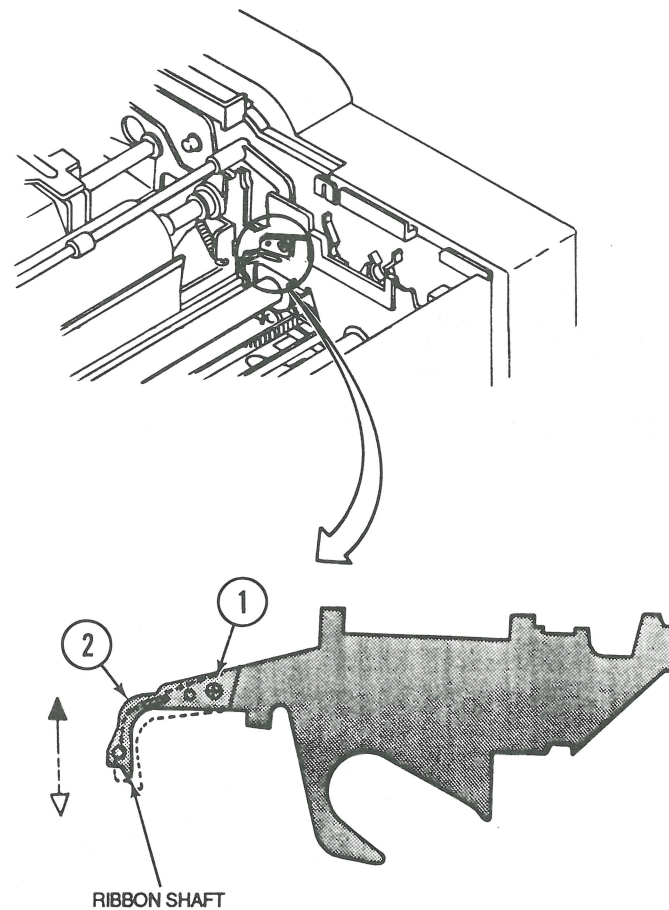

FIGURE 9
4. Loosen the set screw (Figure 9, #1) on the ribbon shaft holder.
5. Adjust the print position by slightly moving the ribbon shaft holder up or down (Figure 9, #2).